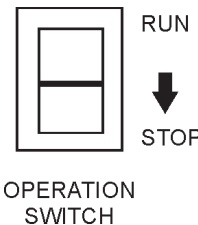

Figure 23. Operation Switch (Stop)
- Place the **operation switch** (Figure 23) in the **STOP** position.